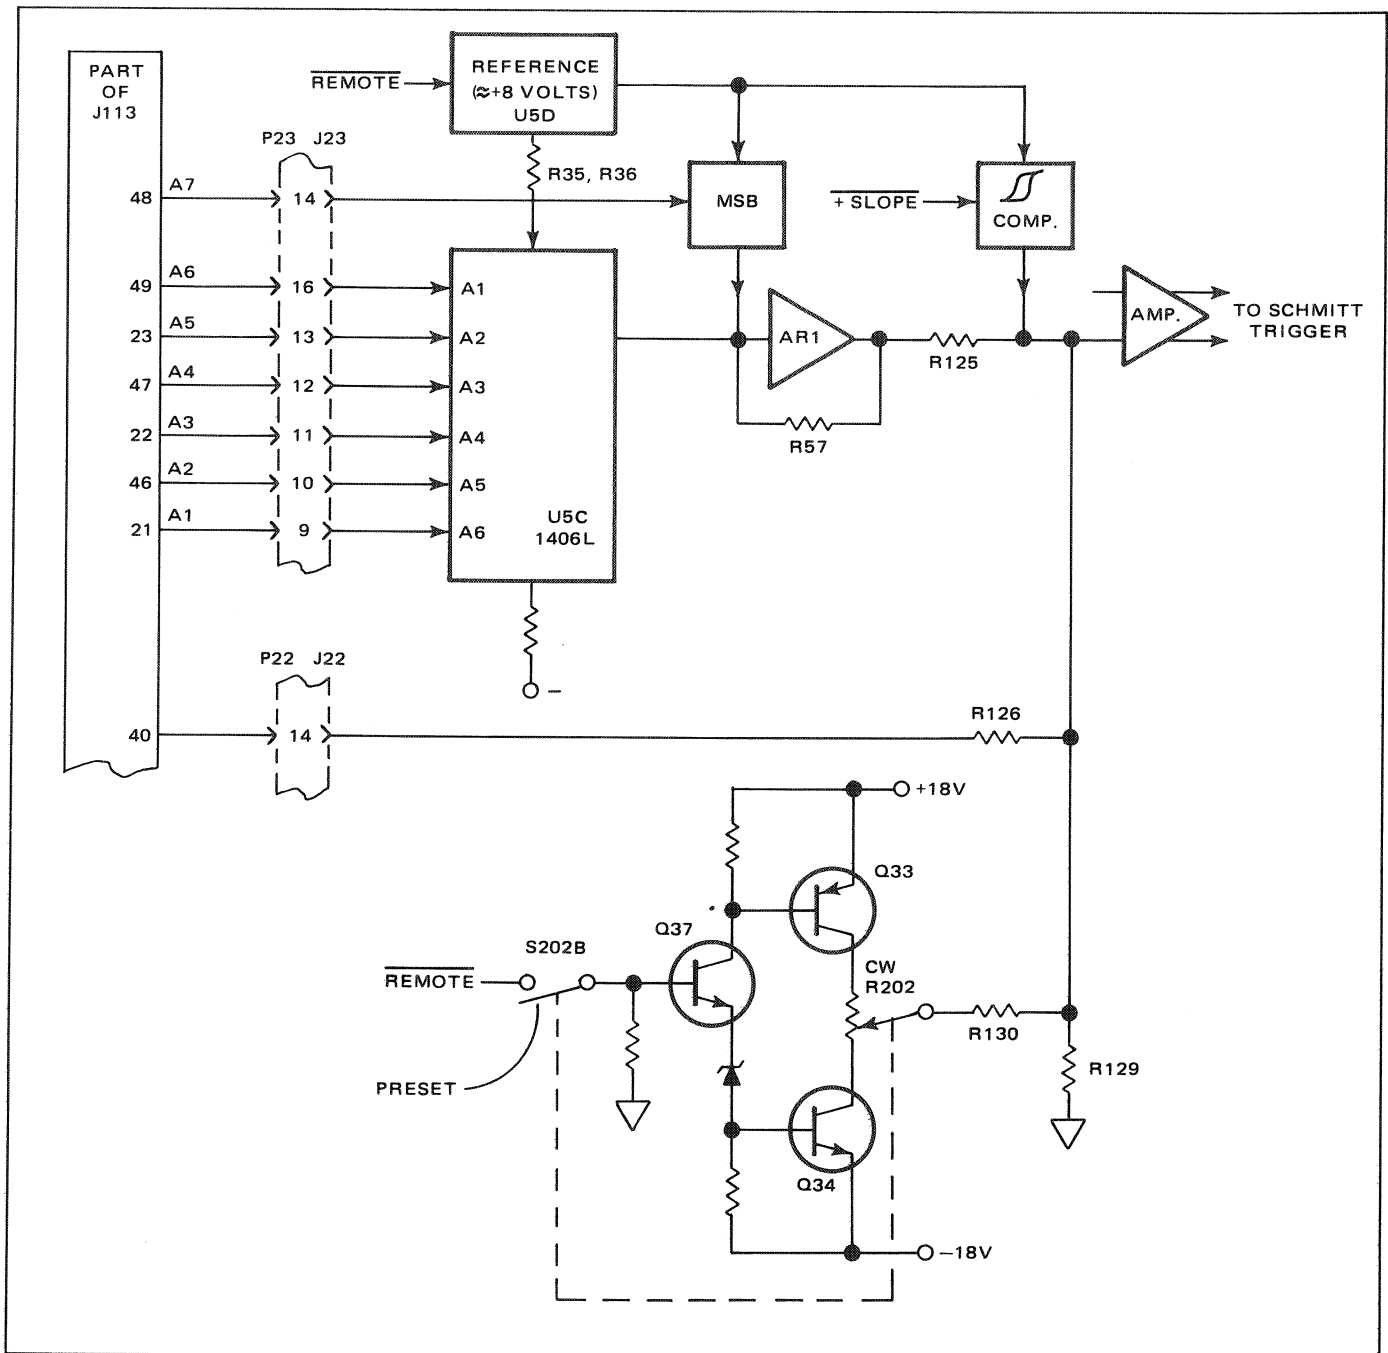

Figure 3.12 - Remote Trigger Level Control (009)
3.51 The circuitry shown in figure 3.12 illustrates the methods used to provide the three separate means of setting the input signal trigger level. The three methods are: Front panel control, analog input, and digital input control. All the circuitry shown is located on the 009 Signal Conditioning Module.
3.54 The digital trigger level control is used only in remote operation. The circuit shown in simplified form in figure 3.12 provides 128 separate, digitally-selected, trigger levels through seven control lines. The circuitry consists of a 6-bit Digital-to-Analog converter (U5C) a seventh discrete-component bit (MSB), an 8-volt reference source (U5D), an operational amplifier (AR1), and a hysteresis compensation circuit.